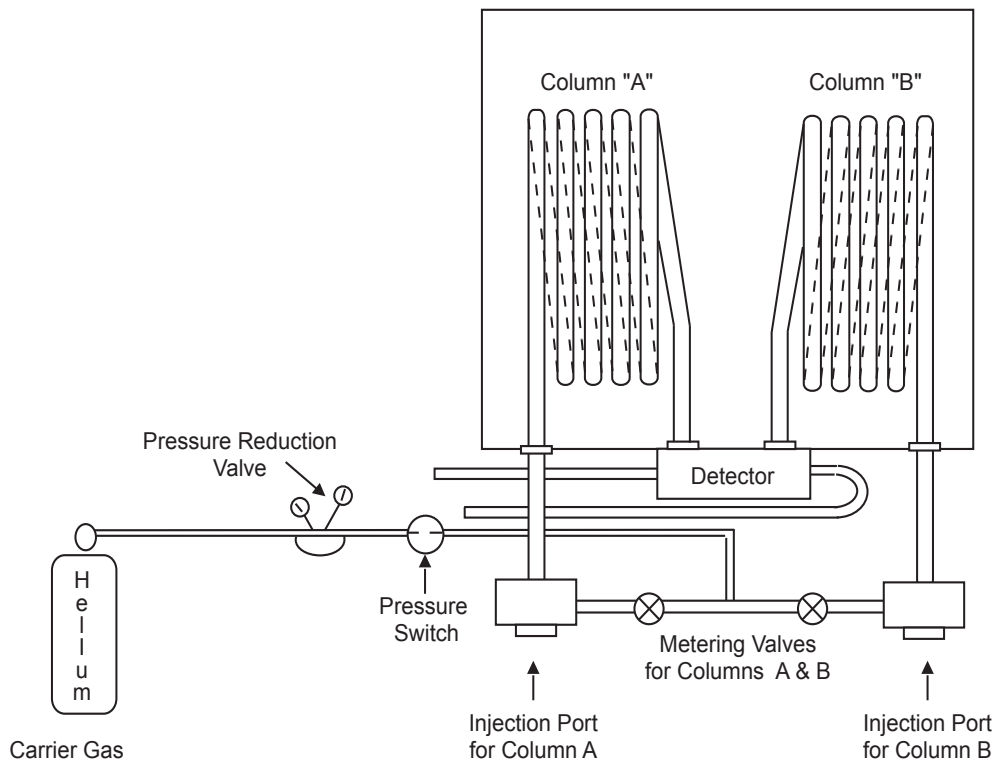

Figure 3-3
8. The easiest way to locate leaks in the system is through the use of a GOW-MAC Gas Leak Detector, Series 21-080. If one is not available, the use of a leak testing solution (soap solution) and checking for bubbles may be used. Refer to Figure 3-3 to locate possible leak areas.